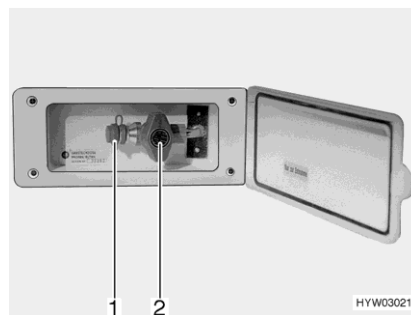

Fig. 181 External gas connection
- Connect the external gas device to the connection point (Fig. 181,1).
- Open the gas isolator tap (Fig. 181,2).